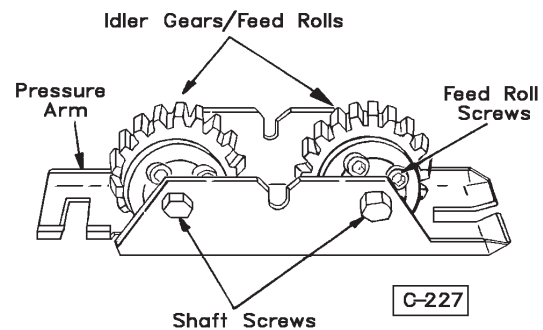

Figure 4-3
- a. Remove shaft screws which secure the idler gear/shaft in place in the pressure arm (See Figure 4-3).